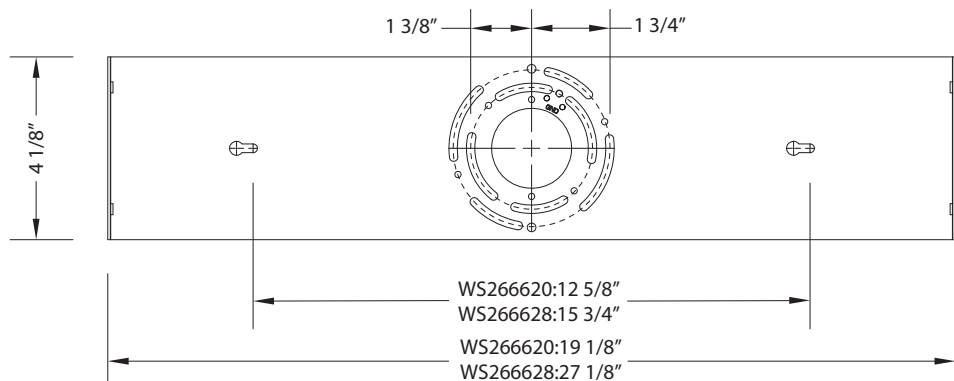

FIG. 3 Wiring
CONNECTING THE WIRES (Fig.3)
6. Connect the fixture's input wires to junction box wires as shown in Fig. 3, making sure that all wire connectors (A) are secured. If your outlet box has a green or bare copper ground wire, connect the fixture's ground wire to it. Otherwise, connect the fixture's ground wire directly to the back plate using the GND screw provided. After wires are connected, tuck them carefully inside the junction box.